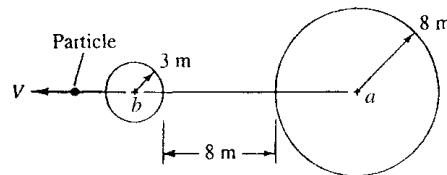

Fig. P9.119
- 9.119** The particle in Fig. P9.119 is moving supersonically in sea-level standard air. From the two disturbance spheres shown, compute the particle (a) Mach number; (b) velocity; and (c) Mach angle.